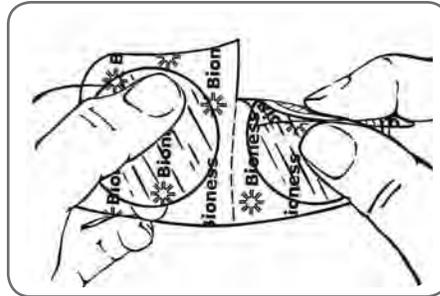

Figure 10-3: Separating the small hydrogel electrodes.
3. Separate the two new hydrogel electrodes along the perforation. See Figure 10-3.